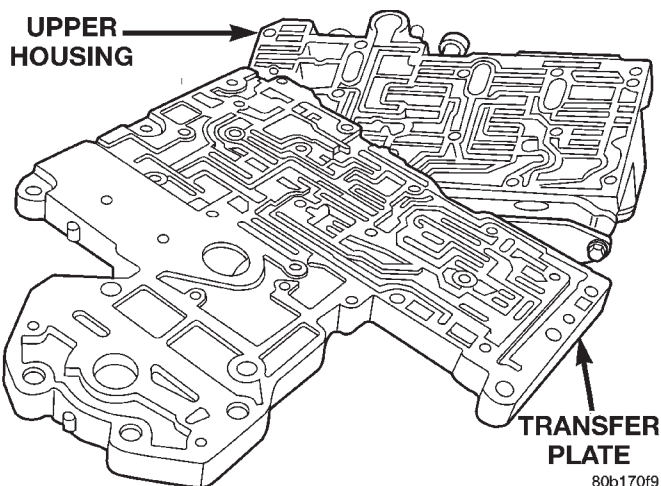
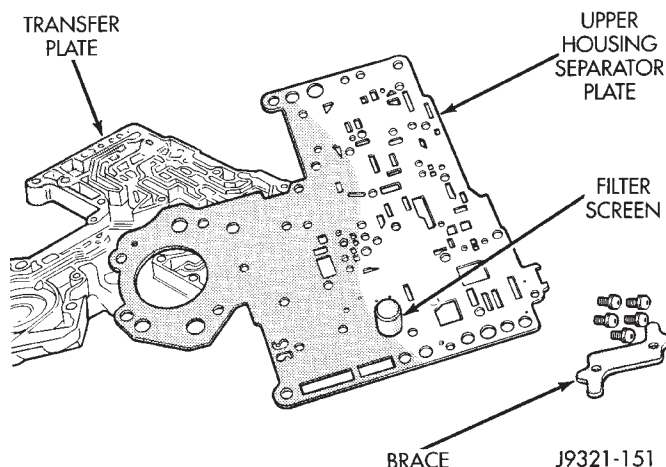

Fig. 65 Transfer Plate
Fig. 66 Upper Housing Separator Plate
(33) Remove transfer plate from upper housing (Fig. 65).
(34) Turn transfer plate over so upper housing separator plate is facing upward.
(35) Remove upper housing separator plate from transfer plate (Fig. 66). Note position of filter in separator plate for assembly reference.